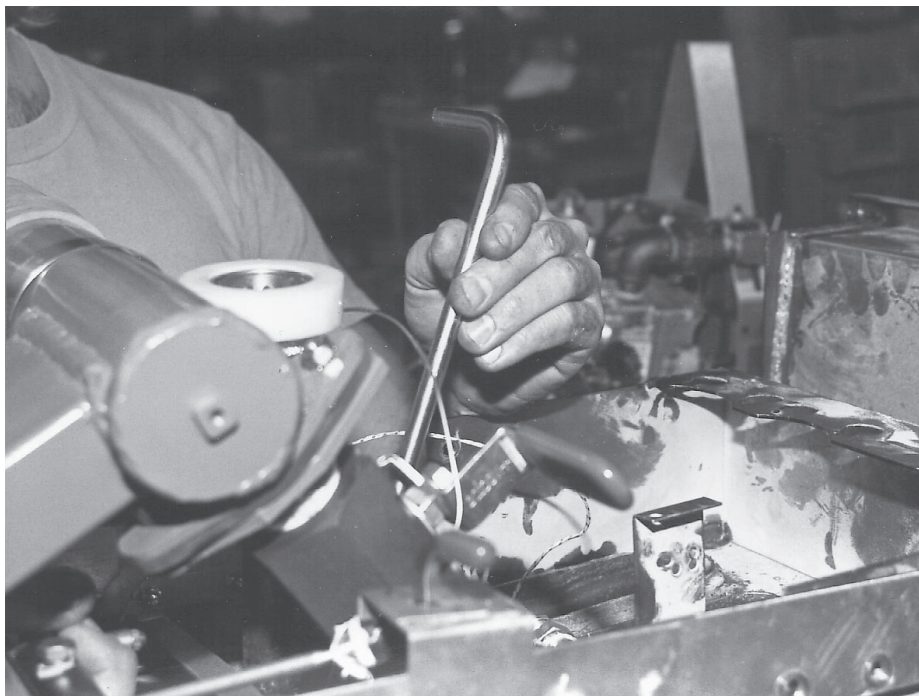

Fig. 91
29. Pull the rod up through the mounting bracket and out of the fryer. (Fig. 91)